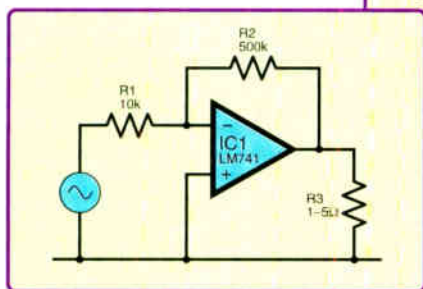
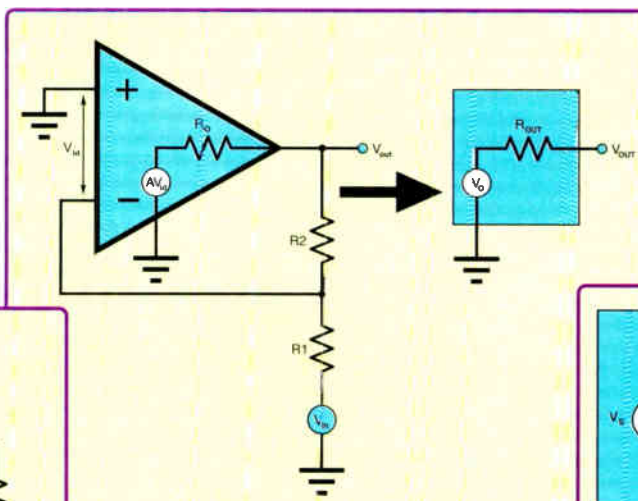

Fig.1. Kenon's original circuit
Fig.2. Inverting op amp amplifier showing op amp output resistance,  $R_O$ , and equivalent circuit for the complete amplifier with output resistance  $R_{Out}$
**T**HIS month we look at a query from the *EPE Chat Zone* from member *Kenon*, which refers to the circuit in Fig.1 and raises some issues about the output capabilities of op amps:
The datasheet value for the 741's output resistance, as Kenon mentions is 75Ω. However, the output resistance of the inverting amplifier configuration used in the circuit in Fig.1 is much less than this due the beneficial effects of the negative feedback used. Fig.2 shows Fig.1 redrawn for looking at the output resistance.
In Fig.2 we have removed the troublesome load, included a voltage source to represent the op amp's output signal, and added a resistor to represent the output resistance of the op amp. The full analysis involves setting  $V_{in} = 0$ , applying a voltage to the circuit output and finding the resulting current. We will just skip to the result.
The output resistance of the inverting amplifier circuit as a whole,  $R_{Out}$ , see Fig.2, is related to the output resistance of the op amp,  $R_O$ , by